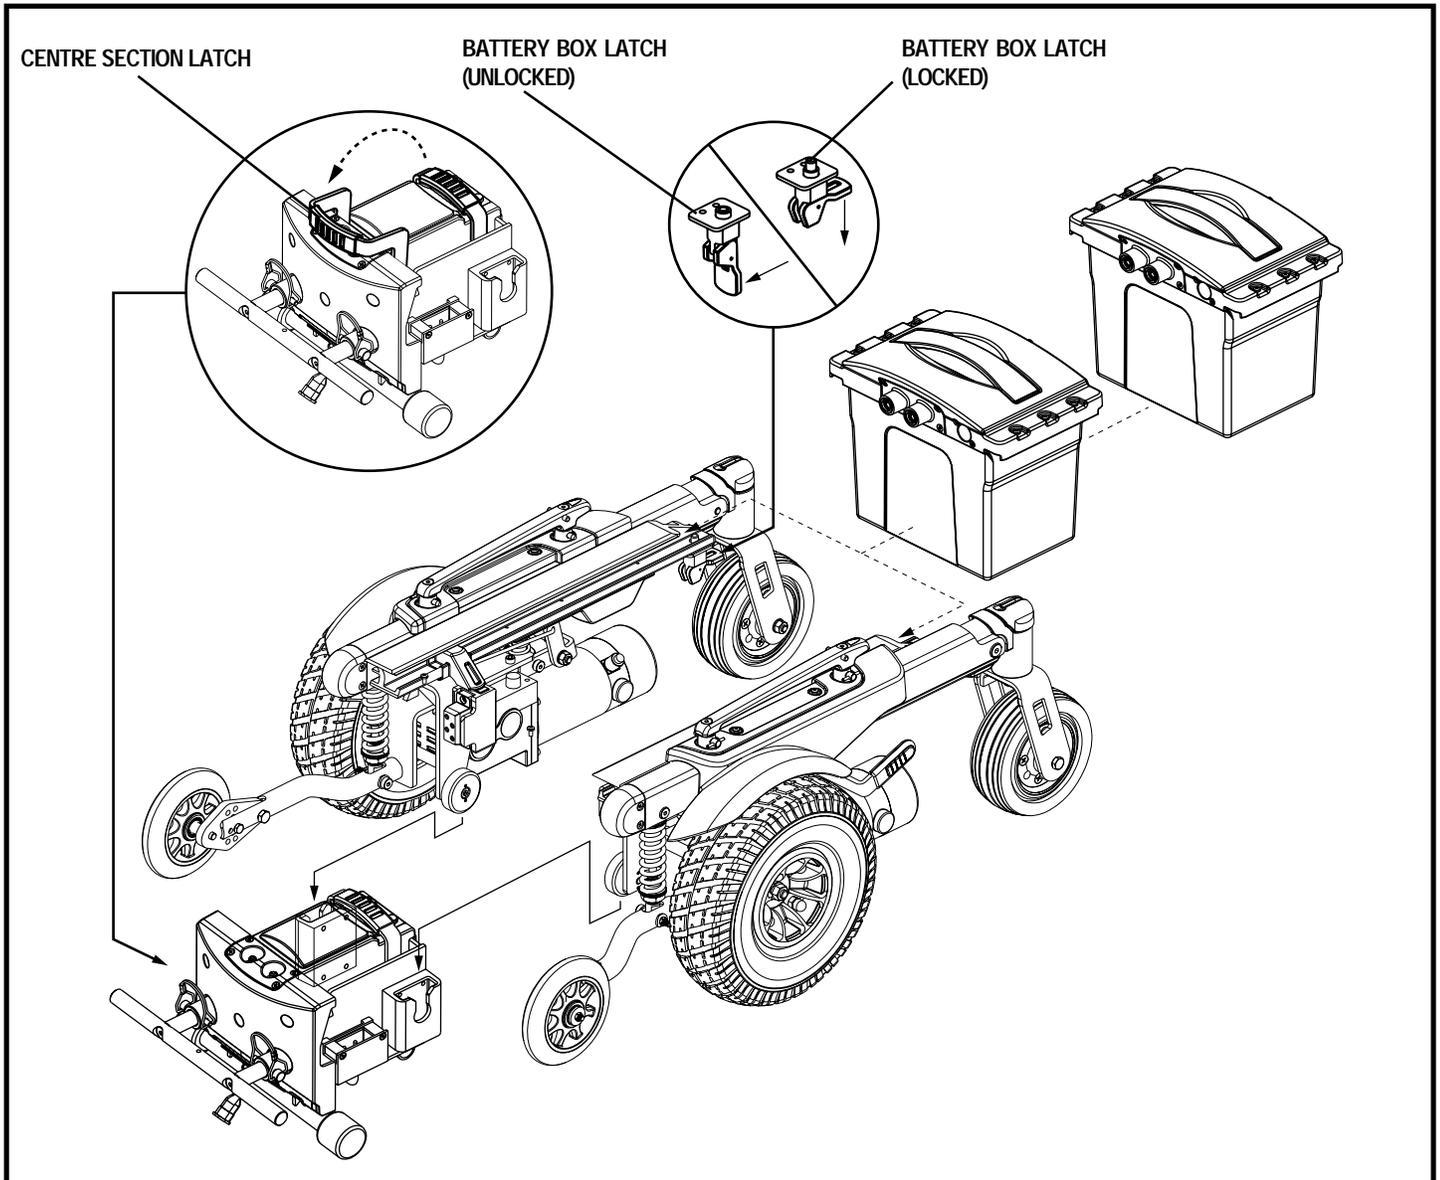

Figure 13. Quantum Dynamo 1107 Battery Box Removal and Frame Separation
5. Flip down the battery box latches on each side of the power base. See figure 13.
7. Flip up the centre section latch. See figure 13.